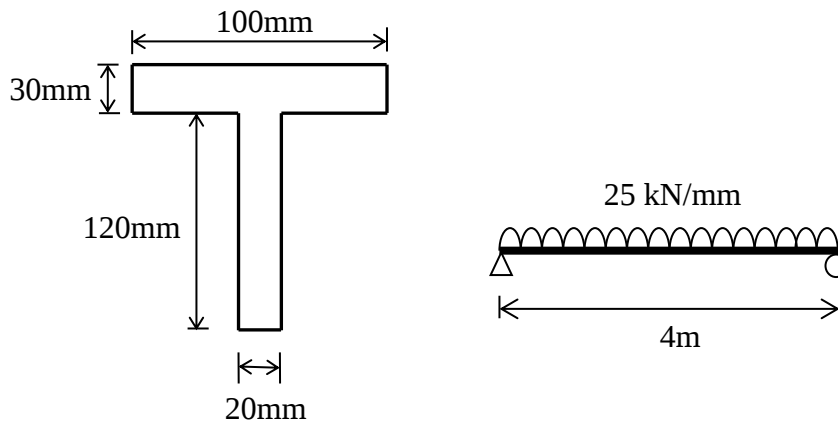

Figure B2(b) / Rajah B2(b)
- CLO2 (b) A simply supported steel beam with 4m length is subjected to uniformly distributed load of 25kN/mm as shown in Figure B2(b). Calculate the second moment area of the beam.